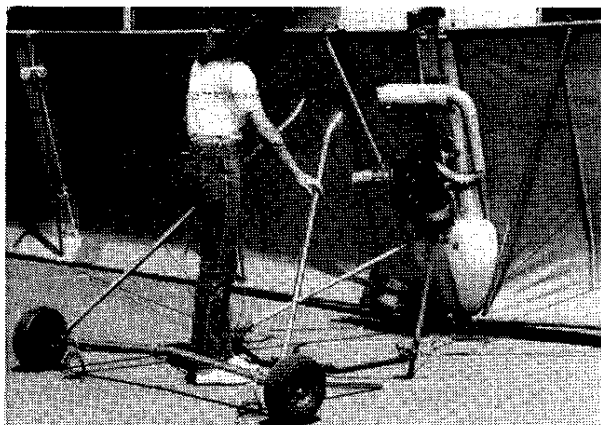

Figure 2.17
22. Position landing gear behind triangle bar, ready for installation. **Figure 2.17**